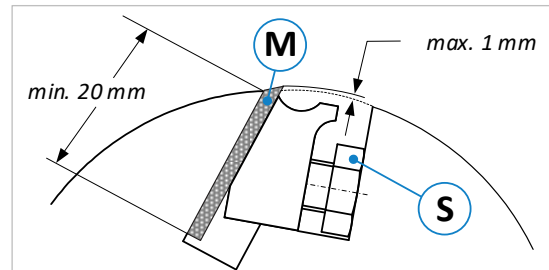
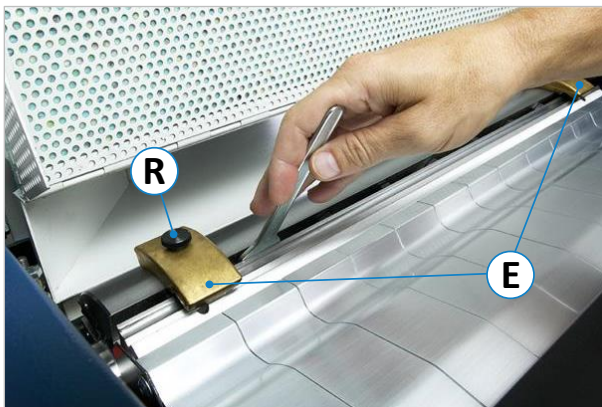

Figure 38: Traditional cutter block
Figure 39: Standard adjusting devices
- The knives (**M**) may only be sharpened to such an extent that a minimum clamping length of 20 mm can be maintained with a knife protrusion of max. 1 mm (see ⇒ Figure 38).
- Using a flat spanner SW17 (as shown in ⇒ Figure 39), loosen all the screws (**S**) in sequence and remove the blunt knives (**M**), see ⇒ Figure 38.